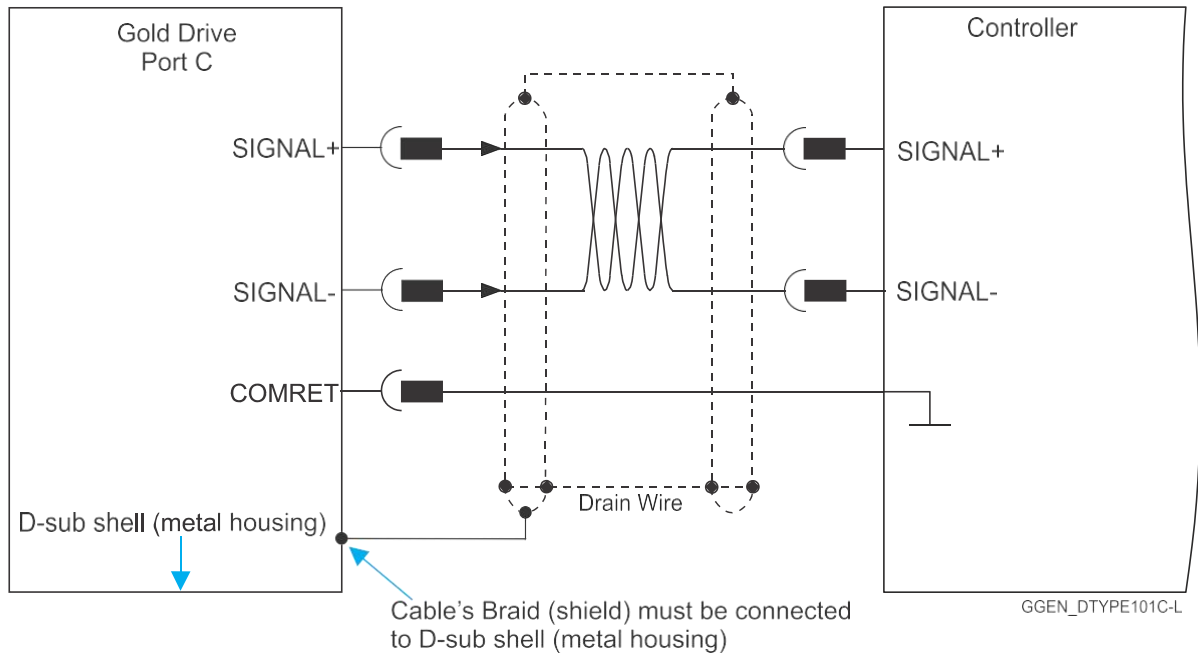

Figure 5: Feedback Port C Cable Assemblies
- A. At the drive, connect the feedback drain wire to one of the COMRET terminals in the D-Type feedback connector (Figure 5).